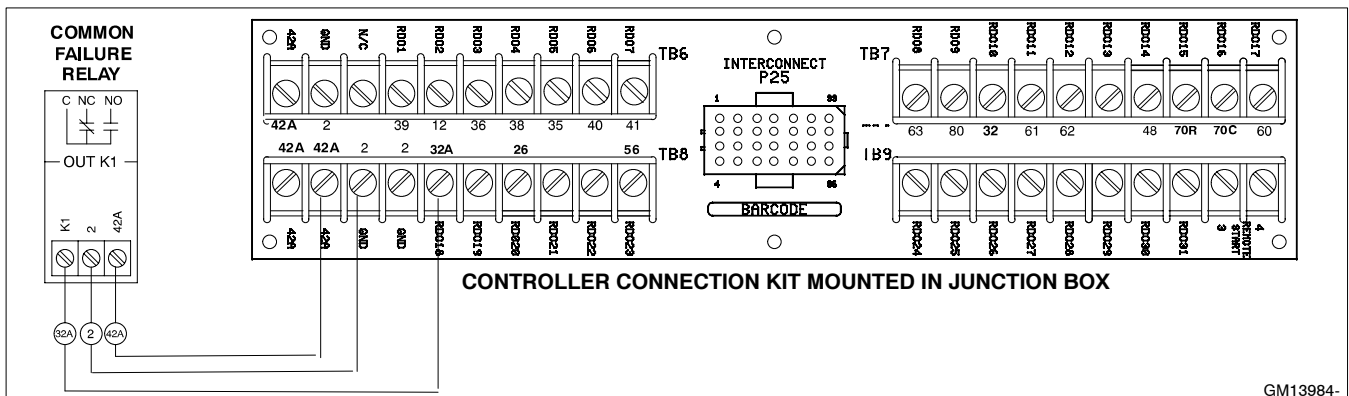

Figure 6 Common Failure Relay Kit Connections
3.1.2 Connect the wiring harness (GM17030) to the common failure relay input terminals. Use the wiring harness end with the shorter individual leads. See Figure 6 for connection information.
3.2.2 Connect the wiring harness (GM17030) to the common failure relay input terminals. Use the wiring harness end with the shorter individual leads. See Figure 6 for connection information.
- 3.3.2 Connect the wiring harness (GM10187) to the common failure relay input terminals. See Figure 6 for connection information.
Connect the wiring harness (GM17030 or GM10187) to the controller connection kit. See Figure 6 for connection information.